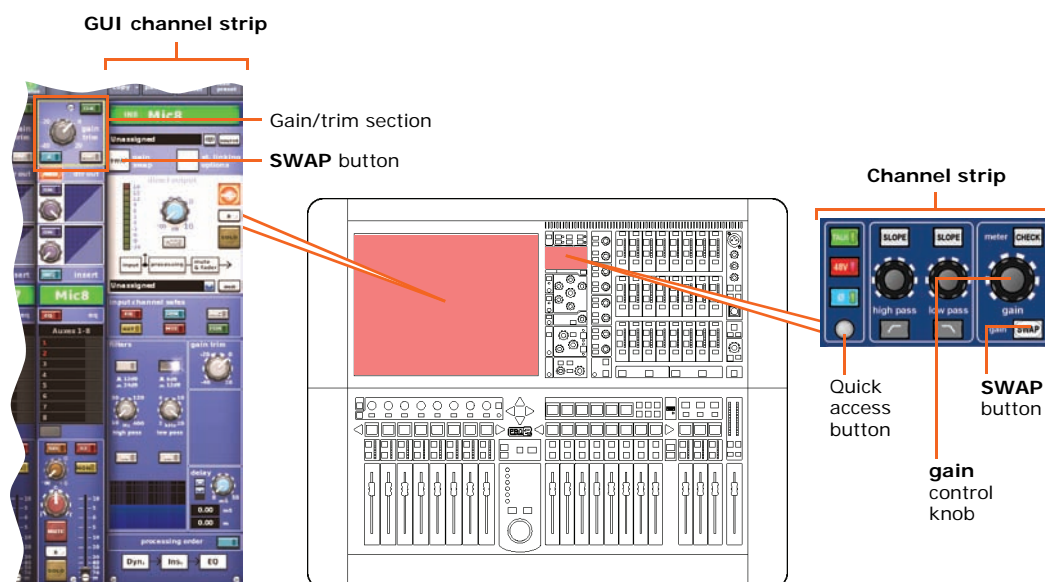

Figure 4: Gain and filters sections of the input strip
- 1 In the **gain trim** section of an input fast strip (see Figure 4, "Gain and filters sections of the input strip," on page 69), press the quick access button. This selects the input channel and assigns its configuration detail area to the GUI channel strip (shown above), which contains the **filters** section.